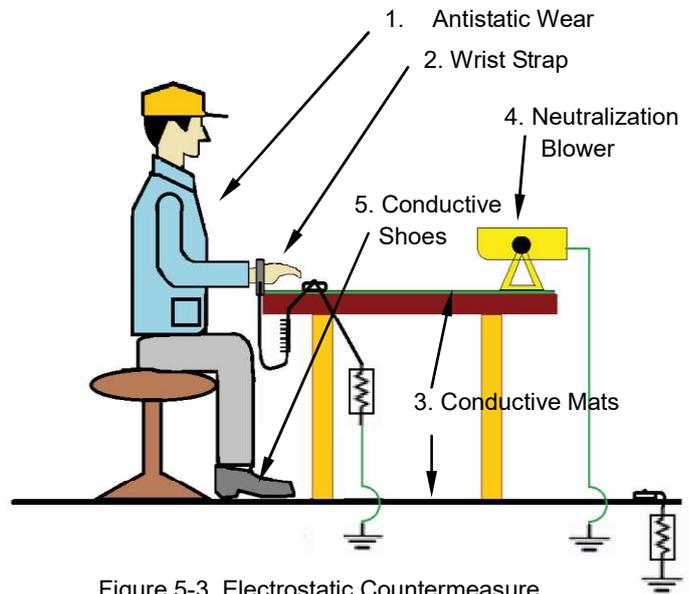

Figure 5-3. Electrostatic Countermeasure
- Place conductive mats (specific resistance of the surface:  $10^5 \sim 10^8 \Omega/\text{cm}^2$ ) on the operation table and the floor around it and make sure to connect to ground. (Figure 5-3, ③Conductive mats)
- Anti-electrostatic charge suite, conductive shoes, and wrist strap ( $1\text{M}\Omega \pm 10\%$ ) should be properly worn or used by the operator. (Figure 5-3, ①Anti-electrostatic charge suite, ②Wrist Strap, ⑤Conductive shoes)
- Setup neutralization apparatus on the operation table to operate the device in the ionic wind. Place conductive sheet, which is grounded, on the operation table. (Figure 5-3, ④Anti-static blower)